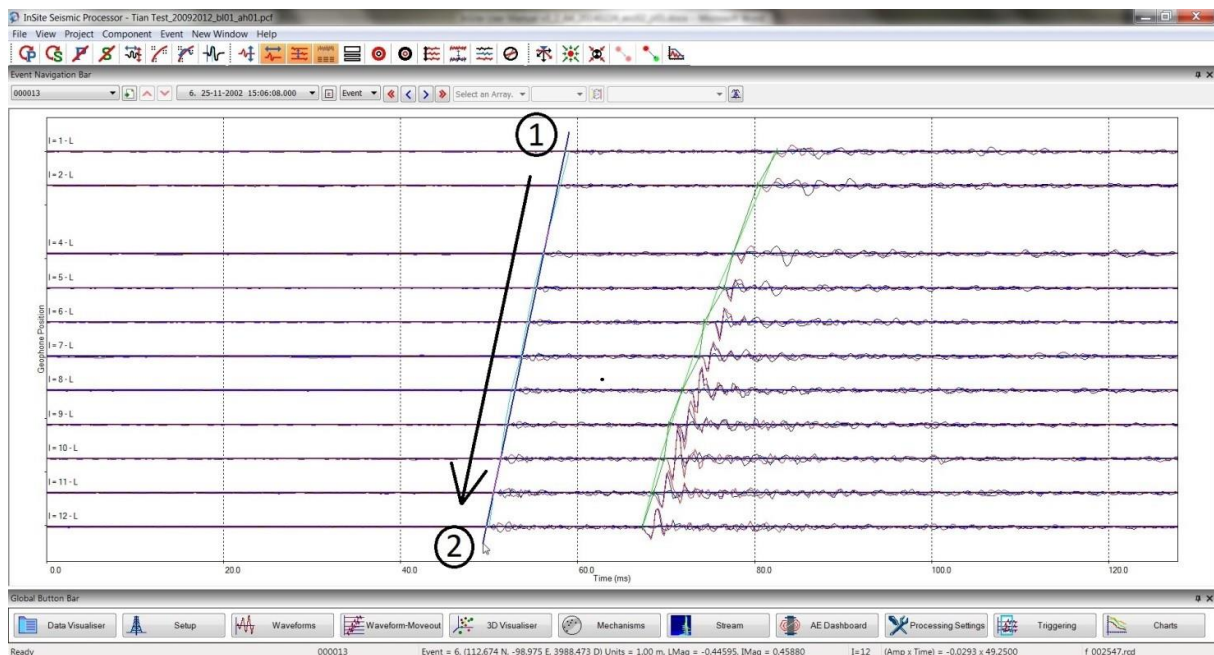

Figure 6-44: Adding picks using draw arrival picks
Upon selecting one of the above options, (Figure 6-44) click and hold the left mouse button at the first pick position (1), then drag the line across to the last pick position (2). When satisfied with the pick positions, release the left mouse button, and all the instruments with a line across will have the relevant pick added. The pick is automatically calculated using the selected picking method (Auto-picking) using the maximum peak in the autopick function between the front and back windows either side of the drawn line where it intersects the time axis of each instrument.